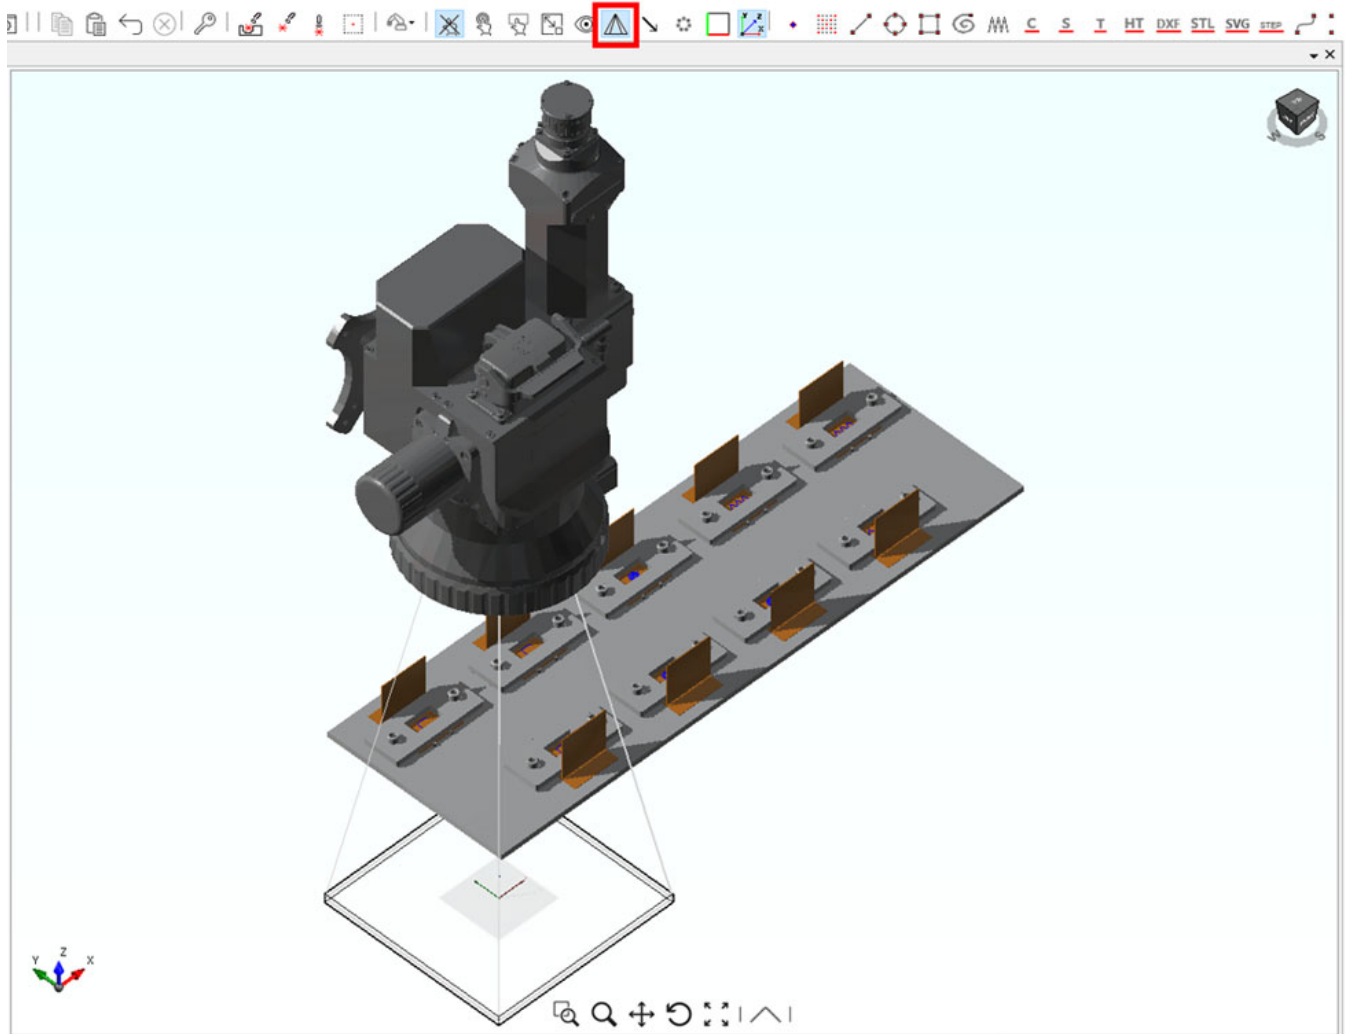

Figure 240: Projection Volume Display
5. Click the "Show Projection Volume" button in the Tool bar. This will cause the head to appear in the IPGScan canvas. See Figure 240 (below).